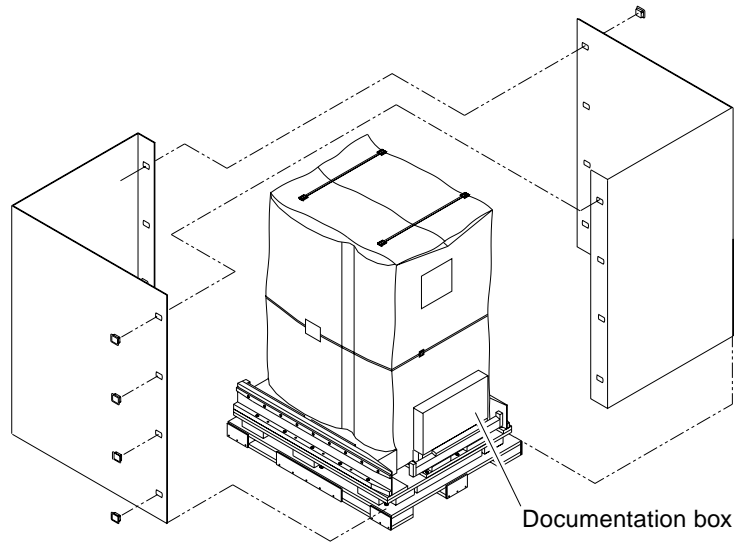

FIGURE 5-20 Adding the Ride-Along Box
18. Insert the service documentation set (P/N 855-3651) and Solaris Media box into the provided ride-along box and place as noted in FIGURE 5-20. Add one of the clear envelopes with the READ ME FIRST document and the clear envelope with the customer documentation.